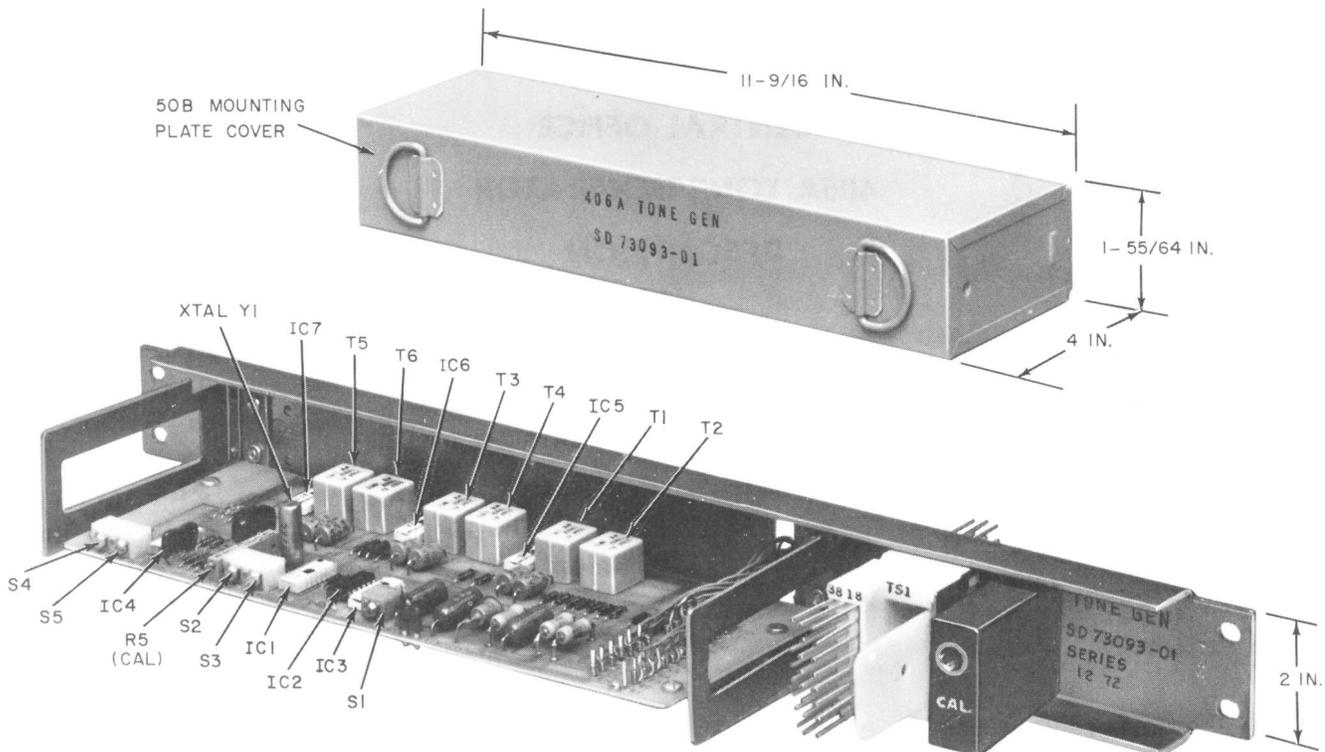

Fig. 1—Overall View of 406A Tone Generator
2.01 The printed wiring board of the 406A tone generator (shown in Fig. 1) contains capacitors, diodes, resistors, transformers, integrated circuits, a potentiometer, and a crystal. The printed wiring board is under a 50B mounting plate cover. The terminals of the printed wiring board are wire wrapped to a D3A terminal strip (TS1) and a CAL jack (J1). These assemblies are mounted on a 19-inch 224A mounting plate.
4.03 The CAL jack (J1), shown in Figures 1 and 2, is provided to facilitate measurement and adjustment of the 0-dBm output levels. A test set having a 600-ohm terminating impedance may be inserted (using a 310-type plug) into the CAL jack (J1) to measure and/or adjust the output level. The CAL potentiometer R5 is then adjusted for a 0-dBm reading on the test set meter. When the adjustment or measurement is completed, the 310-type plug should be removed from the CAL jack. Whenever a plug is inserted in the CAL jack, the generator output at TS1-23 is removed. Only the impedance of the test set is loading the 600-ohm port while this measurement is being